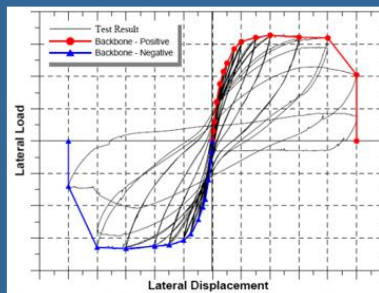

FIG. 7-5. Backbone Curve for Experimental Data
- 1.2. A smooth “backbone” curve shall be drawn through each point of peak displacement during the first cycle of each increment of loading (or deformation), as indicated in Fig. 7-5.